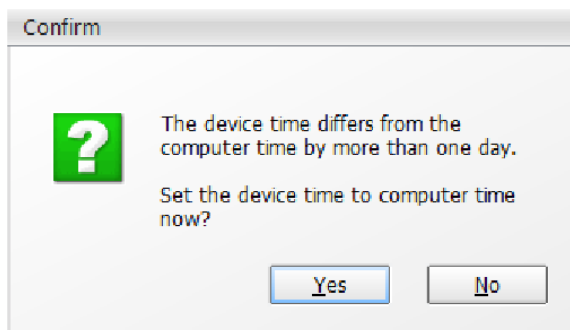

Figure 1.7
8. If the date and time setting in the Scanner differs from the date and time setting in your computer by more than 14,400 seconds (or other threshold specified by the user), the software will prompt you to synchronize the device date and time with the computer date and time. Click **Yes** to synchronize the instrument date and time with your computer (Figure 1.7, page 5). The default threshold is set at 14,400 seconds (4 hours) to prevent undesired prompts when traveling between time zones.